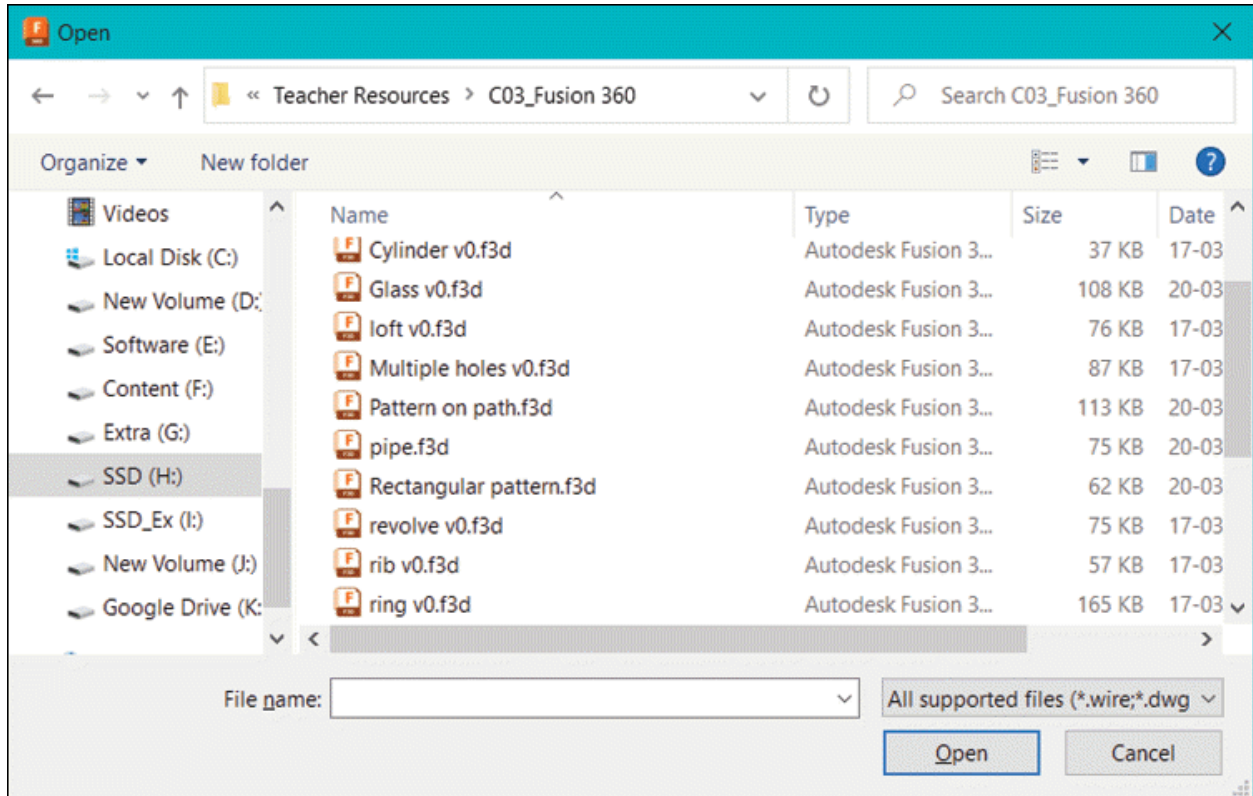

Figure-13. Open dialog box
- If you want to open a file stored in local drive then click on the **Open from my computer** button. The **Open** dialog box will be displayed; refer to Figure-13.